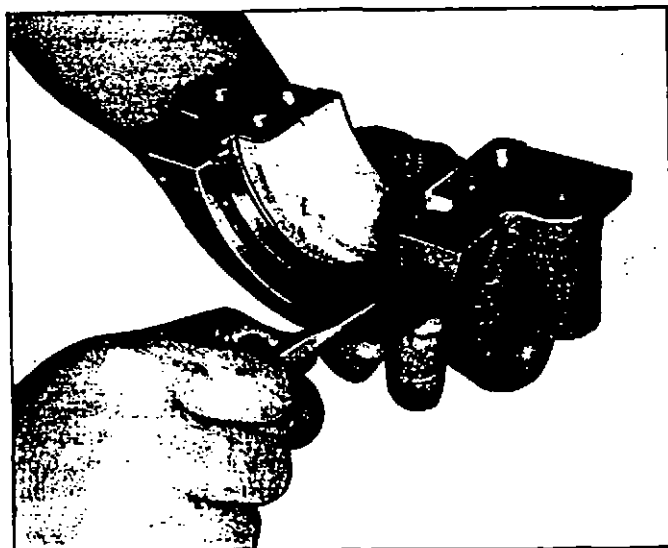

Fig. 7L—Removing Oil Seal (Lower Half) Typical
2. Remove oil seal from the annular tang by prying from the bottom with a small screw driver (fig. 7L).